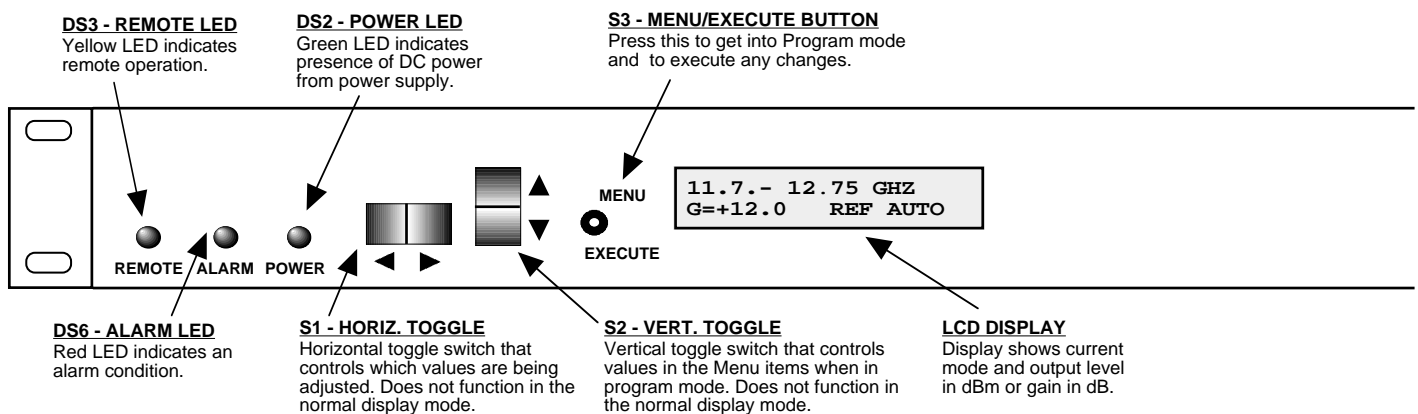

FIGURE 2.2 3115-117 Front Panel Controls and Indicators
Figure 2.2 shows the front panel controls and indicators.
5. Be sure DS2 (green, DC Power) is on and DS6 (red, Alarm) is off (Figure 2.2).
Alarm indications appear on the LEDs (see Figure 2.2).